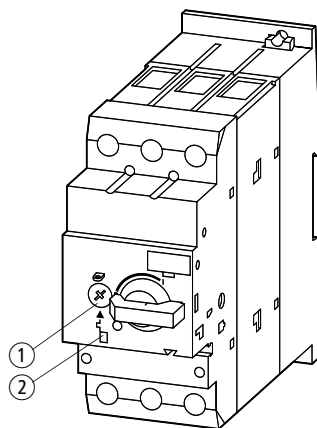

Figure 1: PKZM4-.../XTPR...DC1 motor-protective circuit-breakers
The rated motor current is set on the PKZM4-.../XTPR...DC1 units by means of a current dial ① (→ figure 1, page 19).
Proper functioning of the circuit-breaker can be verified by means of the testing feature ② (→ figure 1, page 19).